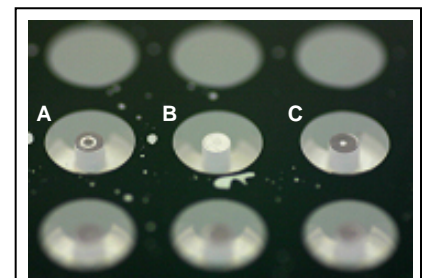

Figure 3. Stoppers that are:
3. Visually inspect the underside of the populated 96-well plate to ensure that the Oris™ Cell Seeding Stoppers are firmly sealed against the bottom of the plate. To inspect the stoppers, turn the plate over and examine the stoppers for sealing (see Figure 3). If incomplete sealing is observed, return the plate to the upright position and use a sterile instrument to gently push the stopper back into the well until sealing is observed.